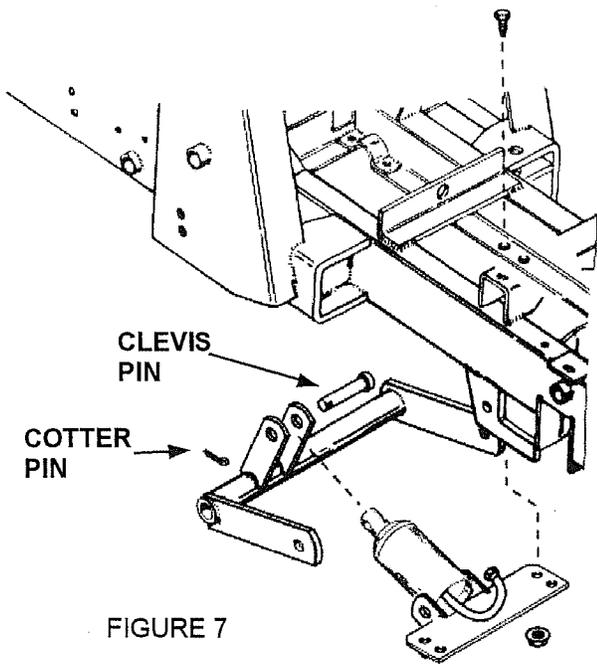

FIGURE 7
8. (See Figure 7) Attach cylinder to lift arm. Use 1/2" x 1.75" clevis pin and 1/8" x 1" cotter pin.